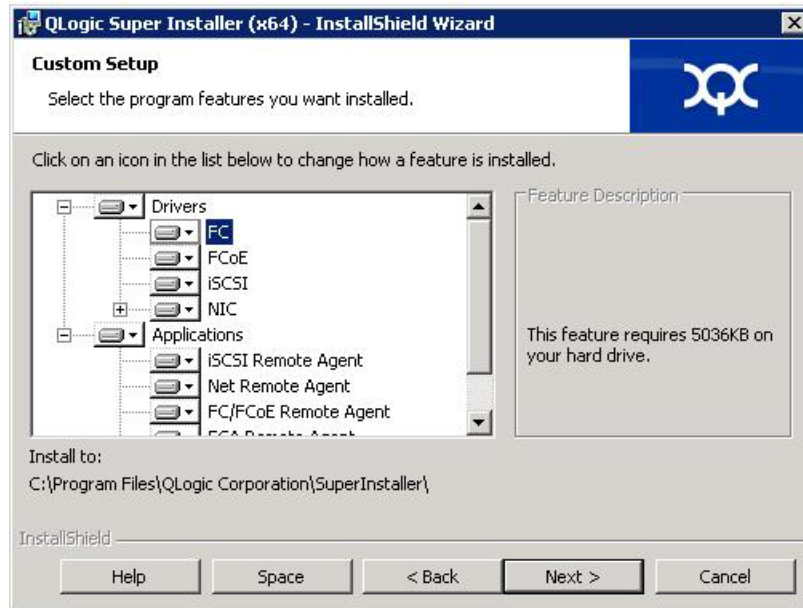

Figure 2-5. InstallShield Wizard: Custom Setup Window
6. If you selected **Custom** in Step 5, complete the Custom Setup window (Figure 2-5 on page 10) as follows: